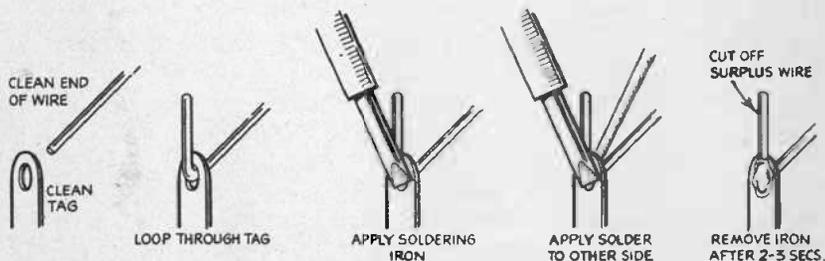

Fig. 9
*Fig. 9* shows the stages in successful soldering. In this example a lead is being soldered to a connecting tag. The same steps apply to any soldered joint in an electrical circuit.